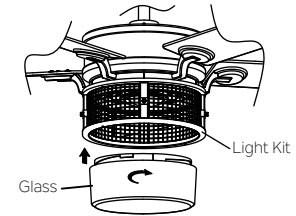

Fig. 21
Step 4. Secure the glass to light kit by twisting in a clockwise direction. Do not over-tighten. (Fig. 21)